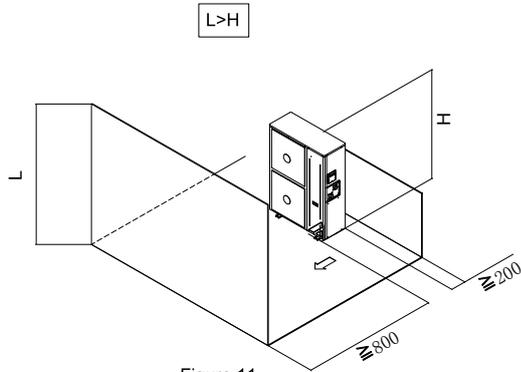

Figure 11
- a. Single unit installation (see Figure 11)